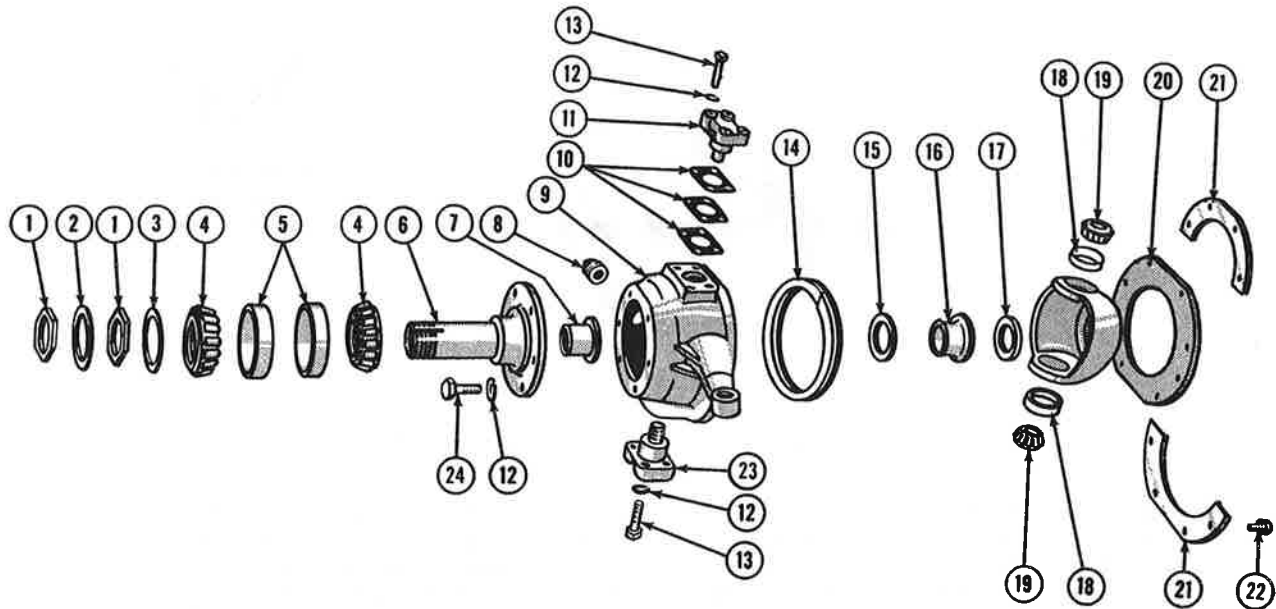

FIG. 228—STEERING KNUCKLE AND WHEEL BEARINGS
- c. Install wheel bearing spindle Fig. 228.
Installation of the Rzeppa-type axle shaft and universal joint in steering knuckles not equipped with spindle bushing Fig. 228, is the same as outlined above for the Bendix-type joint except
- a. Remove the eight screws shown in Fig. 228 which hold the oil seal retainer in place.